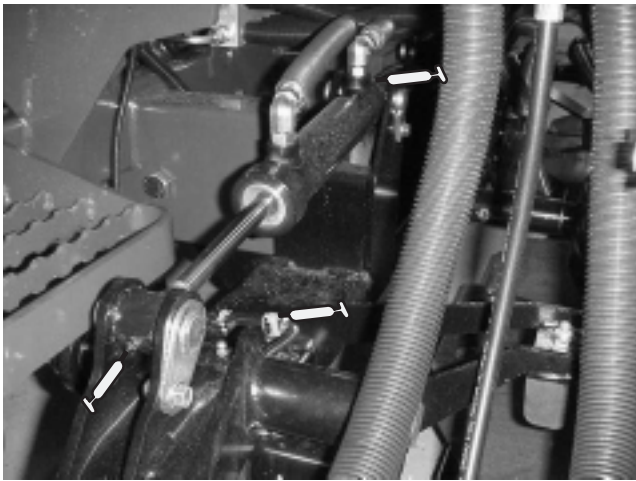

Figure 23
- Lift arm bushings (1 per deck) (Fig. 23)
- Lift cylinder bushings (2 per deck) (Fig. 23)